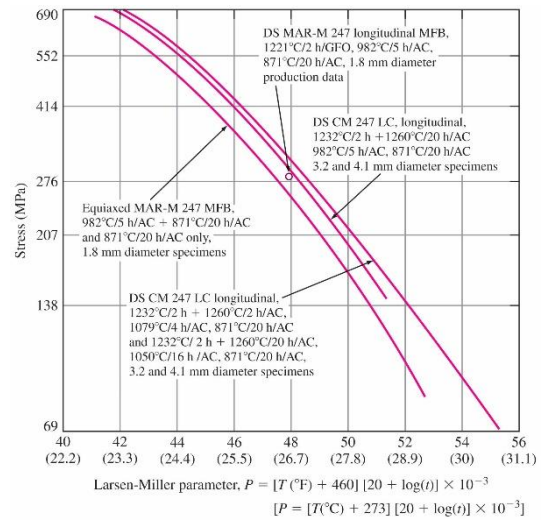

Fig. 7.31
① ①
- (1) Equiaxed MAR-M 247 alloy is to support a stress of 207 MPa (Fig. 7.31). Determine the time to stress rupture at 900 °C.
$$\text{From Fig. 7.31: } P(\text{L.M.}) = [26.7 + (27.8 - 26.7)5/11] \times 10^3 \bullet = 27200 \bullet$$